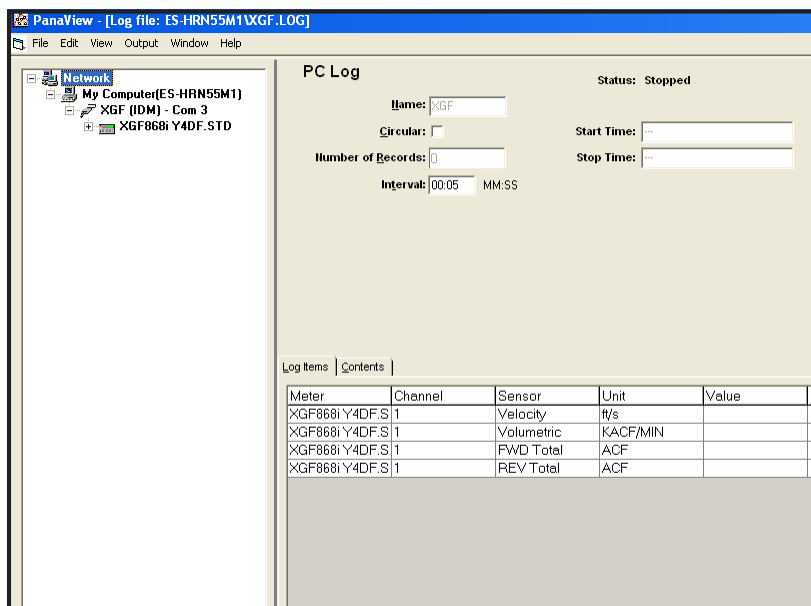

Figure 18: PC Log Window
6. At the resulting *PC Log* window shown in Figure 18, place a check mark in the text box to create a *circular log*, or leave this box empty to create a linear log.
7. Enter a sampling *interval* in the text box shown in Figure 18.